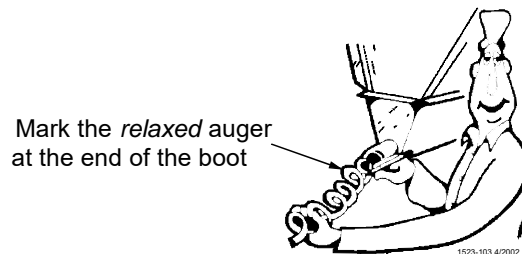

Figure 39. Wiring the Motor
13. Pull the auger at the boot end until it begins stretching. Then let it relax. In the relaxed position, mark the auger at the end of the boot. **See Figure 39.**